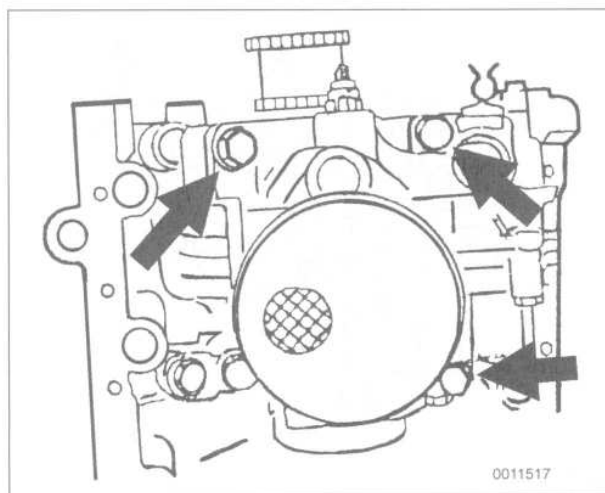

Fig. 9. Oil pump mounting bolt and nuts (arrows) on M60 engine. Oil pump drive sprocket shown removed.
14. Remove center nut at oil pump sprocket and remove sprocket from pump. Remove oil pump mounting bolt and nuts and remove oil pump. See Fig. 9.